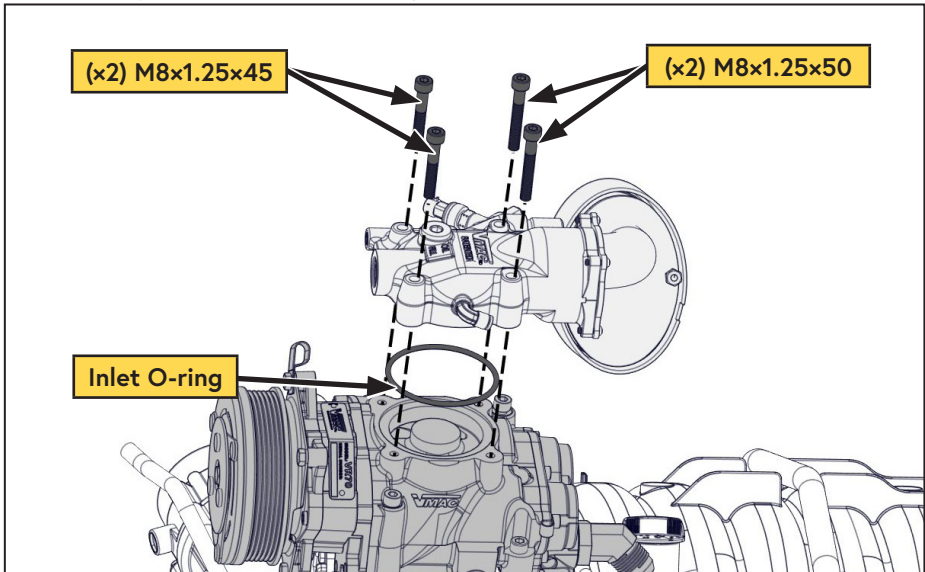

Figure 33 — Install inlet
- ☐ Install the inlet valve, note the location of the different fasteners (Loctite is not necessary for these fasteners) (Figure 33).